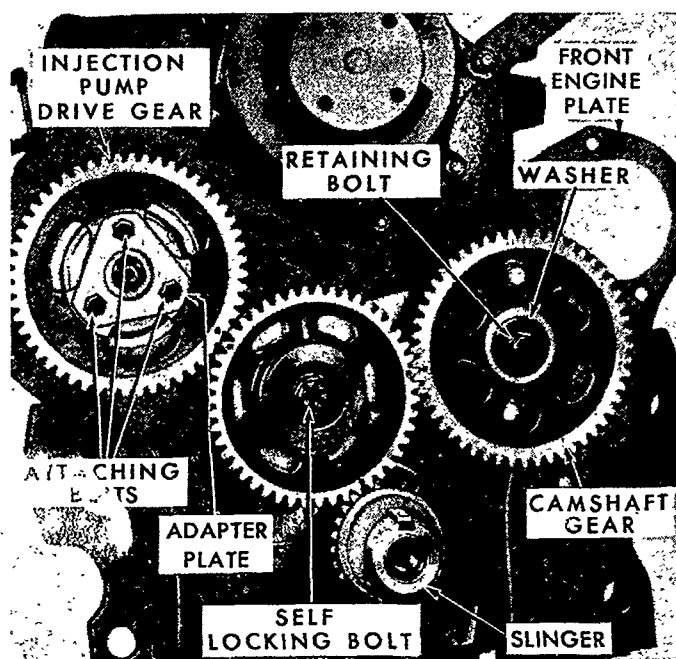

Figure 29
Turn the crankshaft until the camshaft gear is in the approximate timed position, Figure 29.
Remove the three retaining bolts that retain the injection pump gear, Figure 29 (in line pump engines have three bolts and a triangular plate), to the pump adapter plate and remove the gear.
1. Remove the bolt and flat washer, as shown in Figure 29.
When removing and reinstalling any or all of the timing gears, be sure that the timing marks line up correctly, as shown in Figure 29. On all engines, the No. 1 piston must be at T.D.C. on the firing stroke, when the timing marks are aligned.
2. Install the oil slinger dish out, Figure 29.